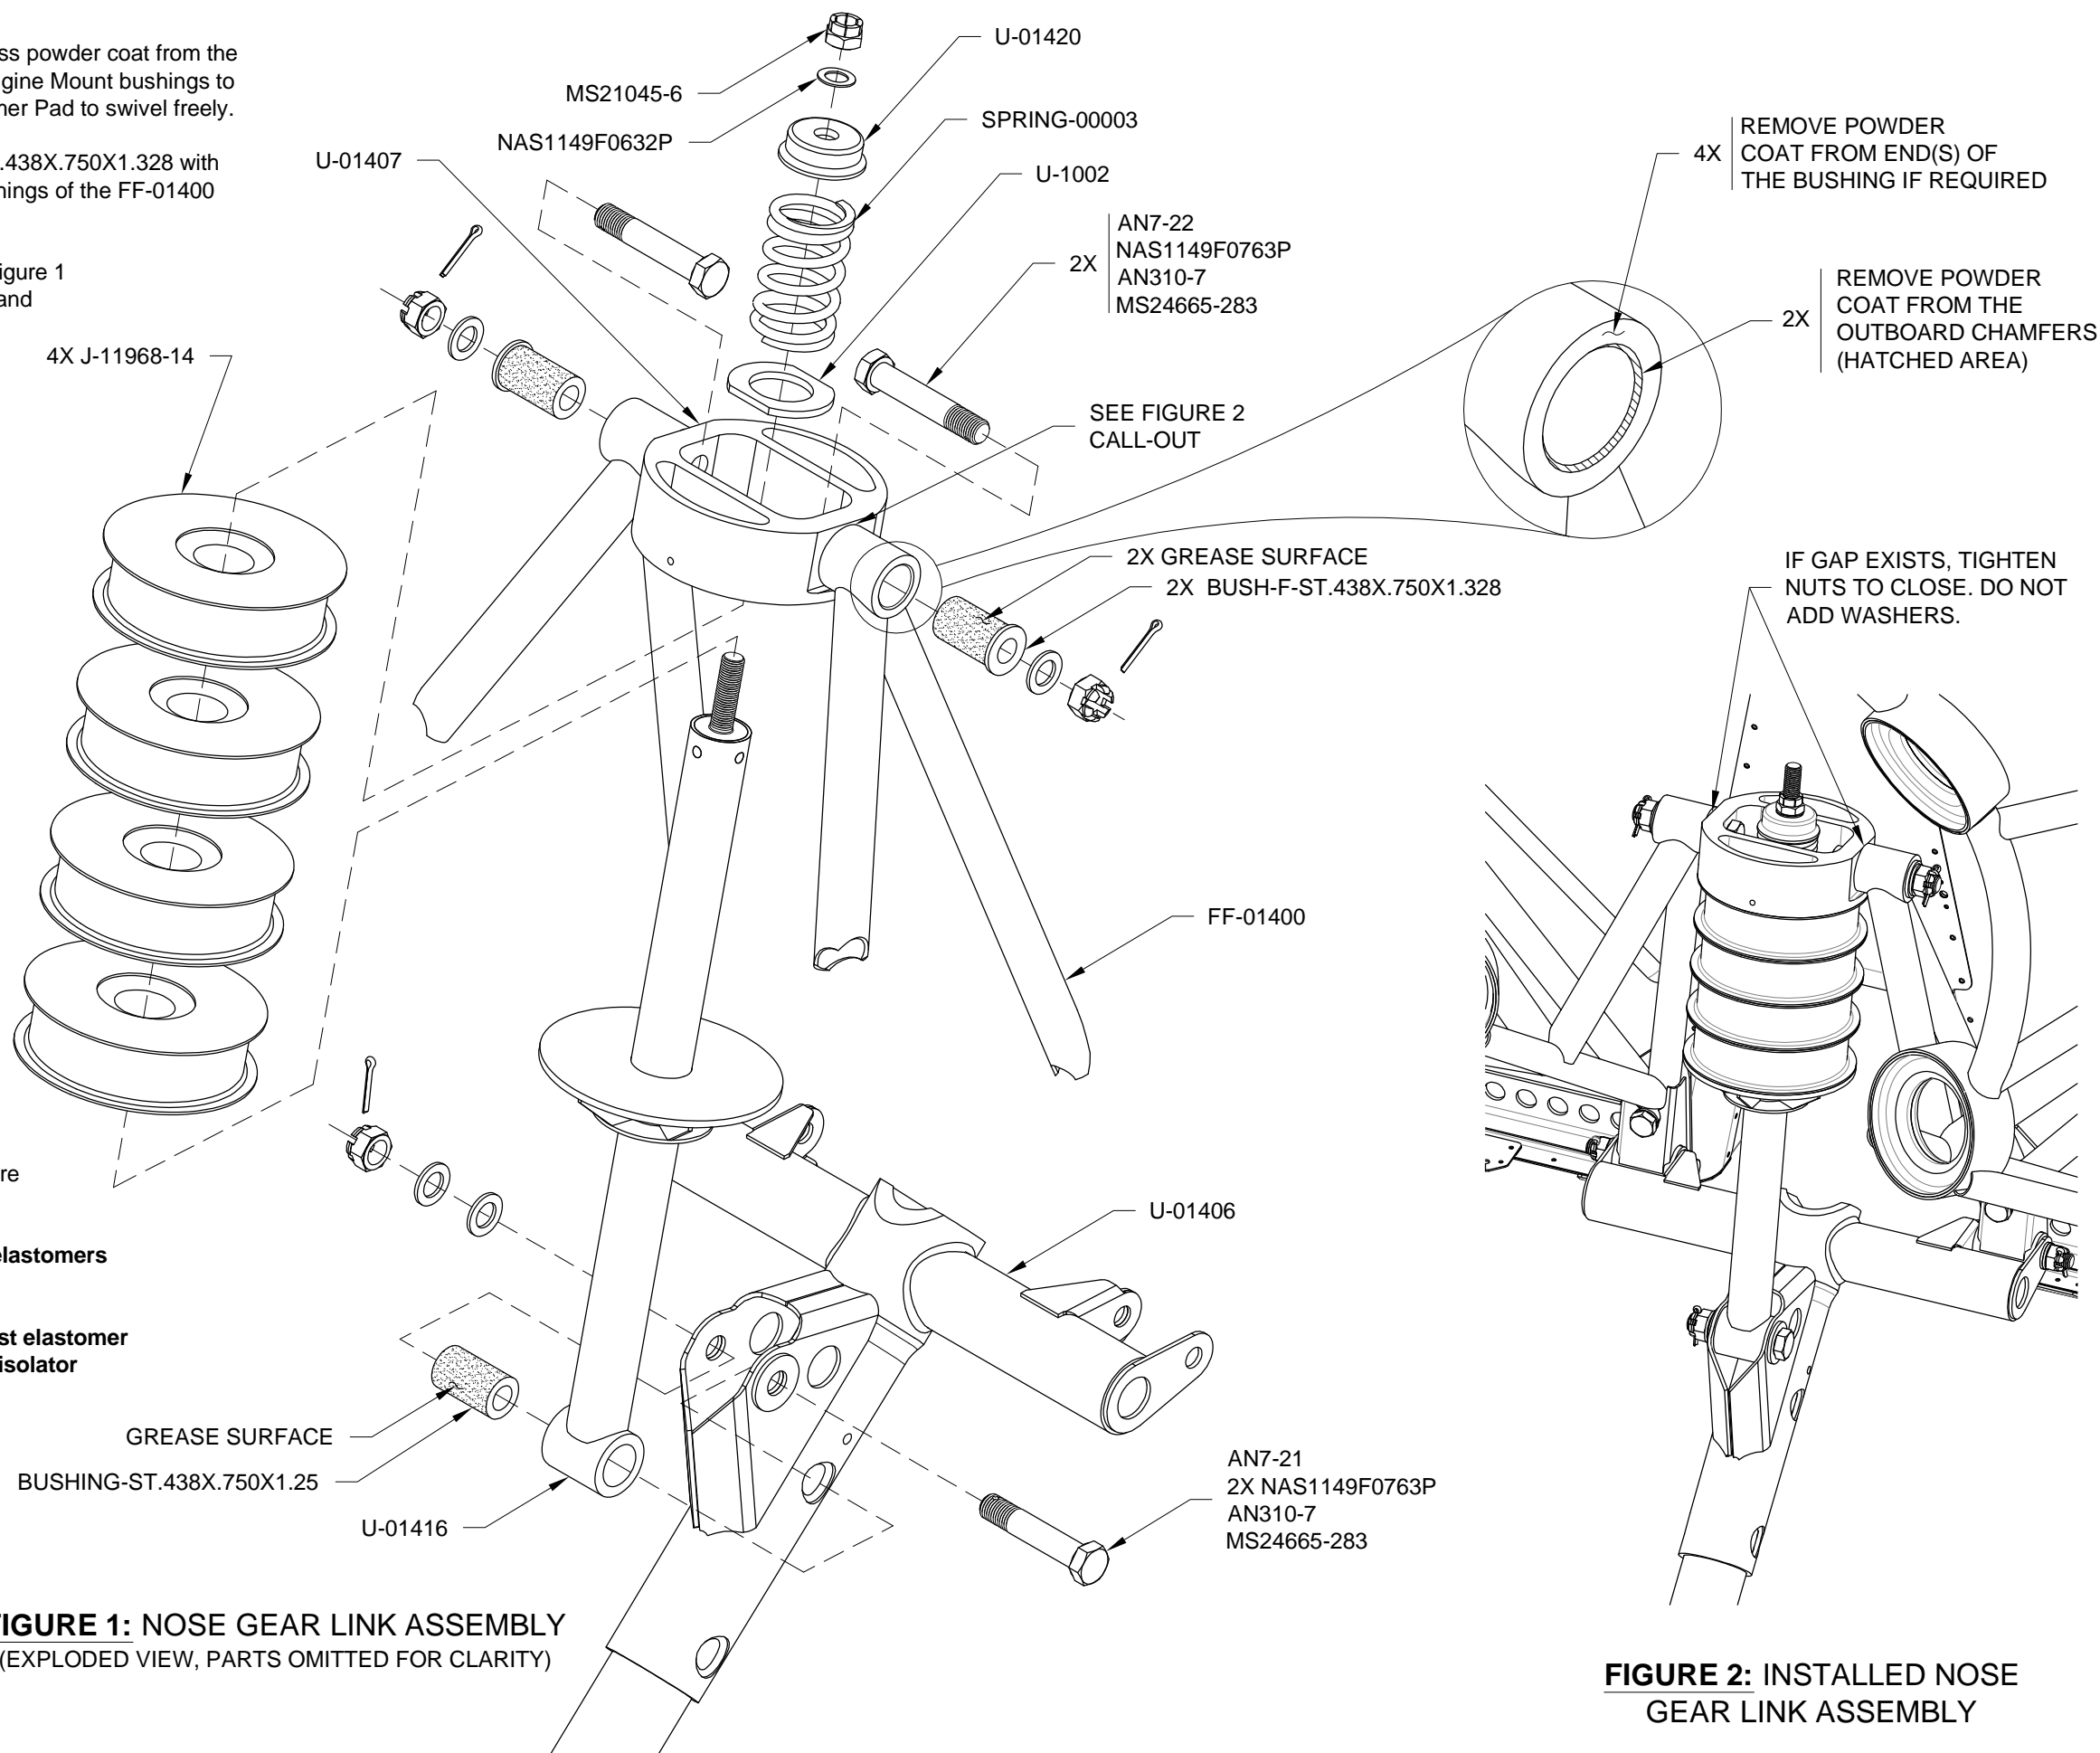

FIGURE 1: NOSE GEAR LINK ASSEMBLY
Step 1: Thread the grease fitting into the hole in the front of the U-01430 Nose Wheel Fork Assembly and the two screws into the holes in the top of the nose fork as shown in Figure 1.
CAUTION: Carefully observe the WD-1031 Axle Flange orientation shown in Figure 1. The straight edge of the flange must be positioned forward as depicted. Positioning this edge aft will adversely affect the aircraft's turning radius.